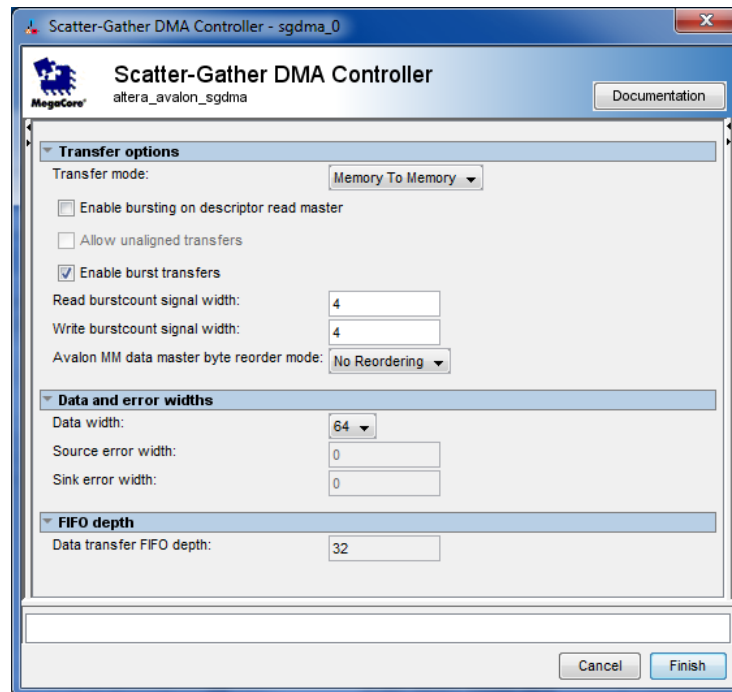

Figure 6. Settings for Scatter-Gather DMA Controller.
- In the Configuration Wizard window, check the checkbox of **Enable burst transfers** and set the **Data width** to 64 as shown in Figure 6.